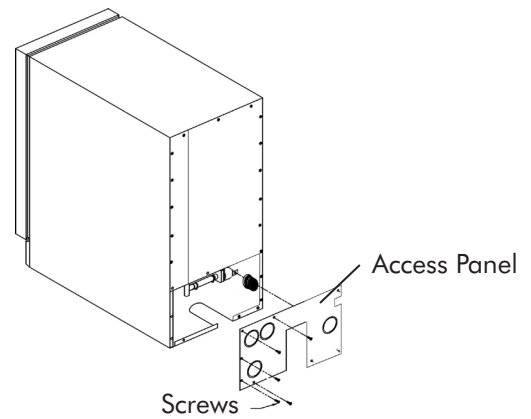

Figure 6
1. Turn the ice machine to gain access to the rear of the unit. Remove the access panel by removing the ten (10) screws (see Figure 6).